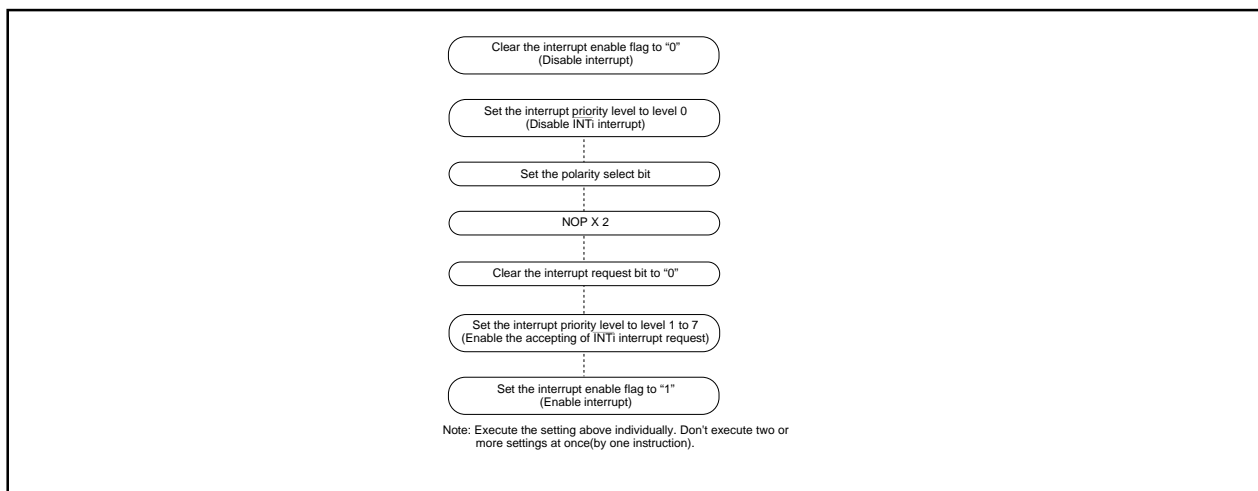

Figure 1.11.13. Switching condition of INT interrupt request
(2) Setting the stack pointer
(3) The $\overline{\text{NMI}}$ interrupt
(4) External interrupt
- When the polarity of the $\overline{\text{INT0}}$ to $\overline{\text{INT5}}$ pins is changed or the interrupt request cause of the software interrupt numbers 8 to 9 is changed, the interrupt request bit is sometimes set to "1". After these changes were made, set the interrupt request bit to "0". Figure 1.11.13 shows the procedure for changing the $\overline{\text{INT}}$ interrupt generate factor.